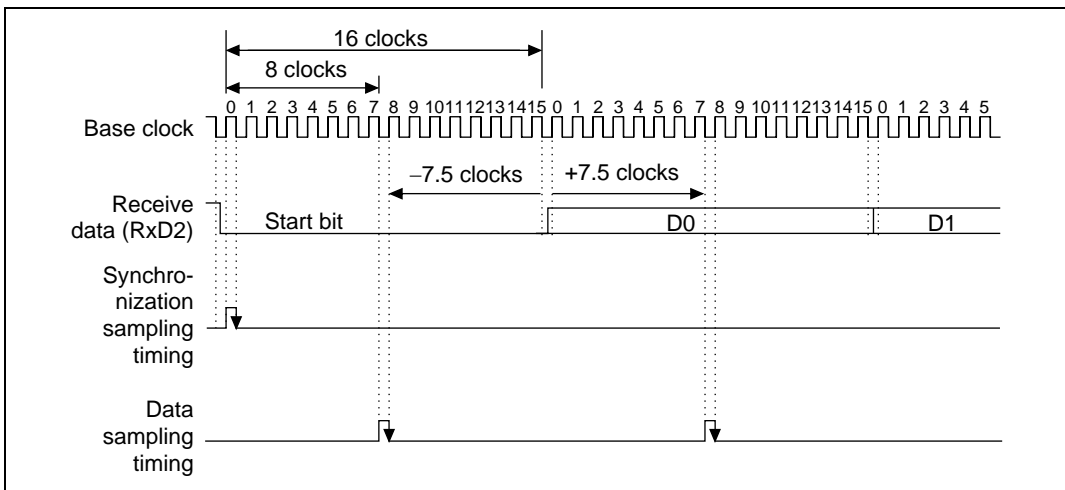

Figure 19.12 Receive Data Sampling Timing in Asynchronous Mode
6. Receive Data Sampling Timing and Receive Margin: The SCIF operates on a base clock with a frequency of 16 times the transfer rate. In reception, the SCIF synchronizes internally with the fall of the start bit, which it samples on the base clock. Receive data is latched at the rising edge of the eighth base clock pulse. The timing is shown in figure 19.12.